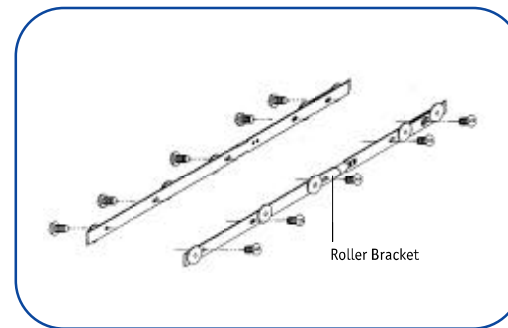

Figure 3. Rack Slide Assembly
- 2) Mount the front and rear brackets to the rack slides by aligning the large hole on the middle slide with the first and then the third smaller hole on the outer slide and loosely secure with two flat head screws, two lock washers, two flat washers, and two hex nuts per bracket (Figure 3). Do not tighten the brackets until after they are installed in a rack.